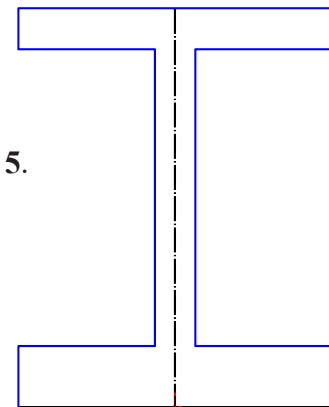

Fig. 5
Step 7. Click **Mirror Entities**  **Mirror Entities** on the Sketch toolbar, **Fig. 5**.
Step 8. Click **Smart Dimension**  (S) on the Sketch toolbar.